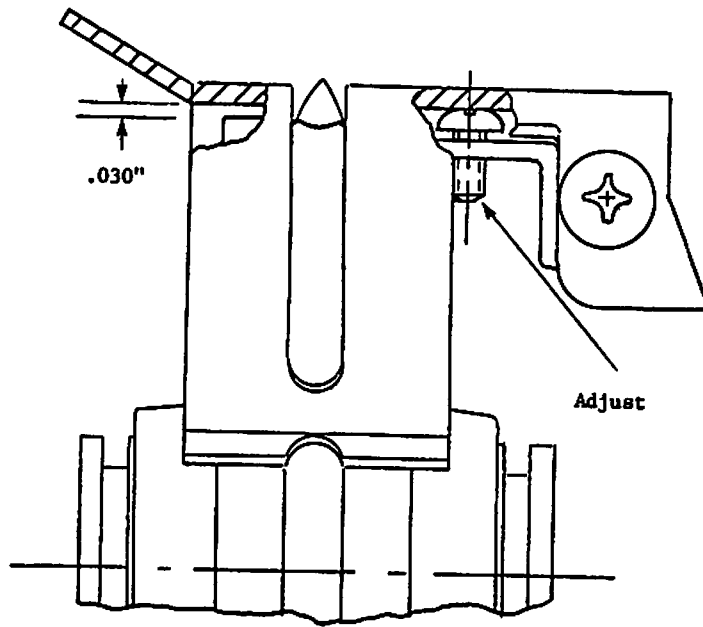

FIGURE 5-18 PAPER GUIDE COVER
- 2) The teeth of the sprocket should be centrally located in the cover slot as shown in Figure 5-18.